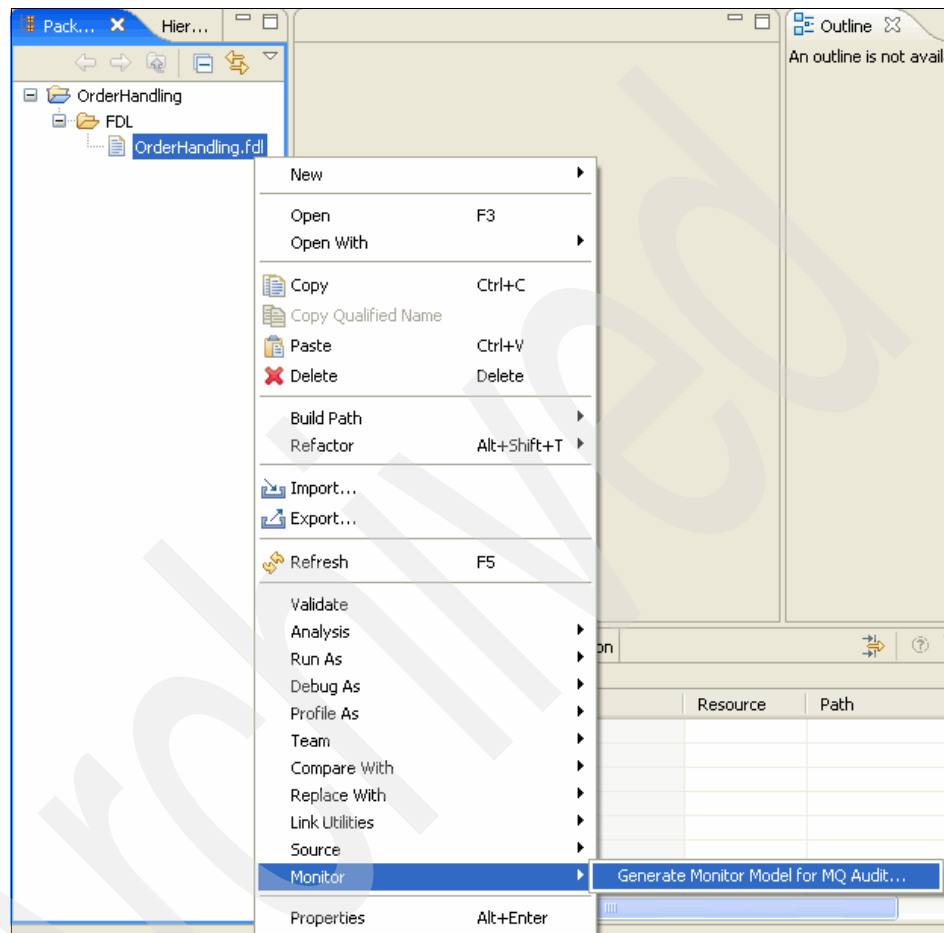

Figure 8-47 Selecting the option Generate Monitor Model for MQ Audit
5. From the newly created OrderHandling project (Figure 8-47), expand **FDL**, right-click **OrderHandling.fdl** and select **Monitor** → **Generate Monitor Model for MQ Audit...**